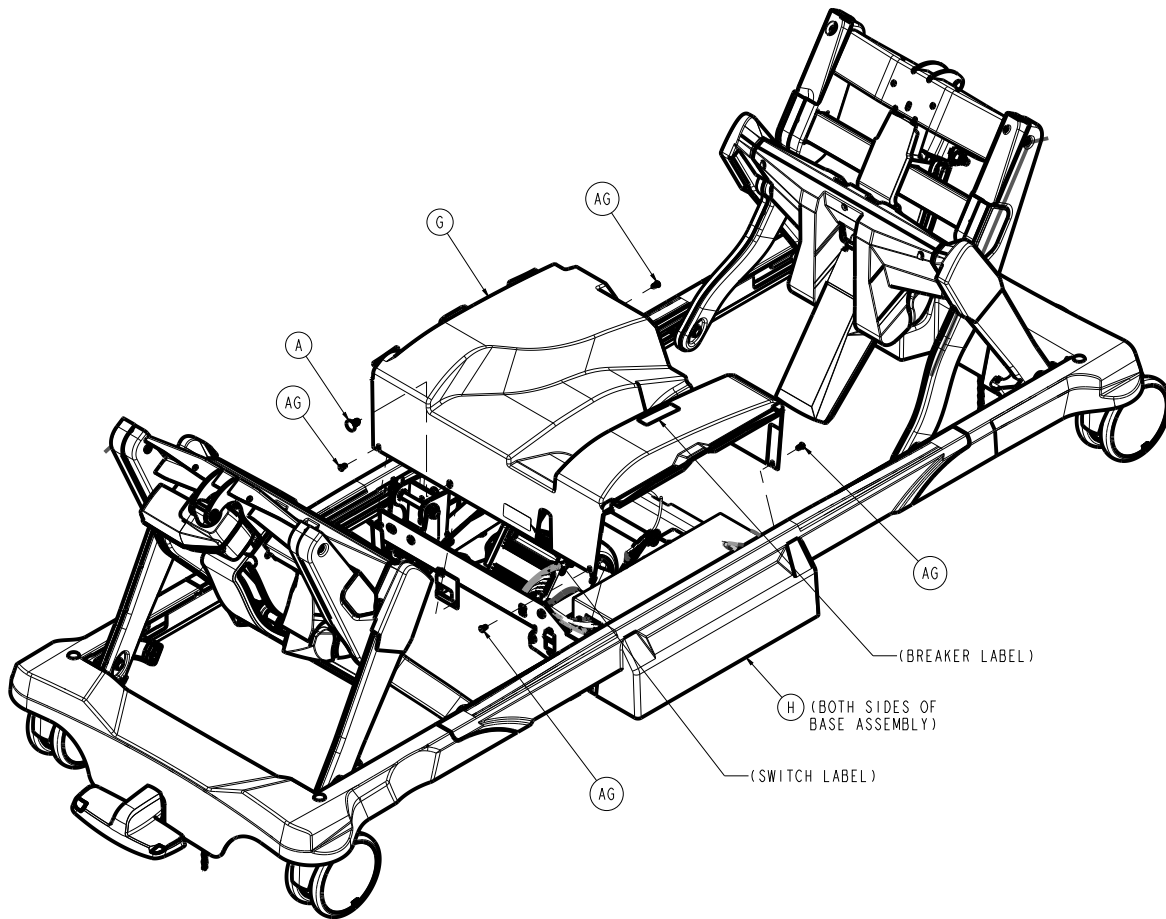

Figure 65 – Removing the Zoom cover
6. Remove the two push rivets (AG) that secure the outer base cover (H) to the **Zoom** cover (G) (Figure 65). Save the rivets and outer base cover. Repeat for the opposite side.
8. Remove and save the **Zoom** cover (G) (Figure 65).